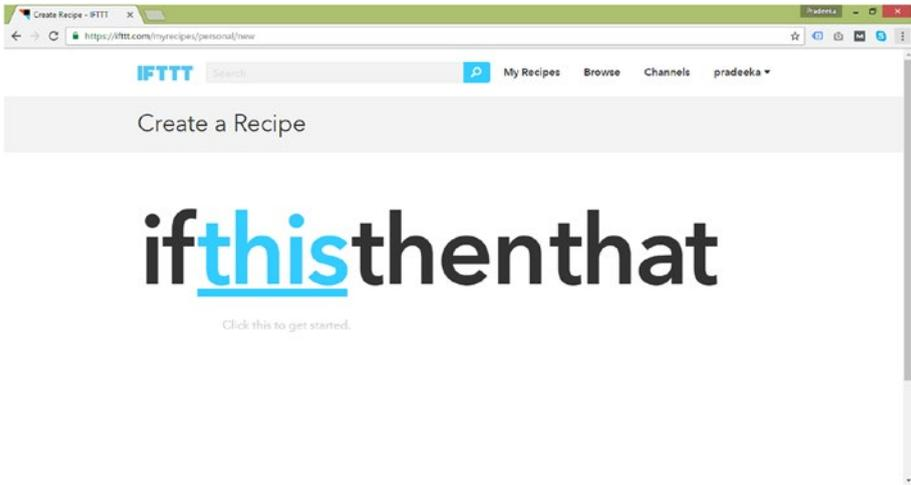

Figure 8-11. Create a recipe: this
3. Click the link shown in Figure 8-11.